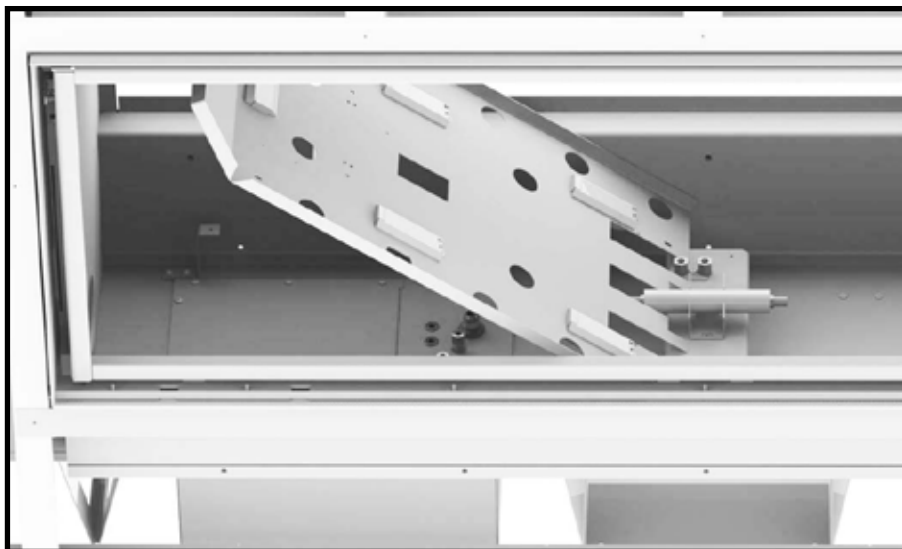

Figure 72: Installing one half of secondary floor.
3. On the bulkhead side, tilt the floor approximately 45 degrees and insert the wires from the floor through the rubber grommet in the bulkhead plate (Figure 72).